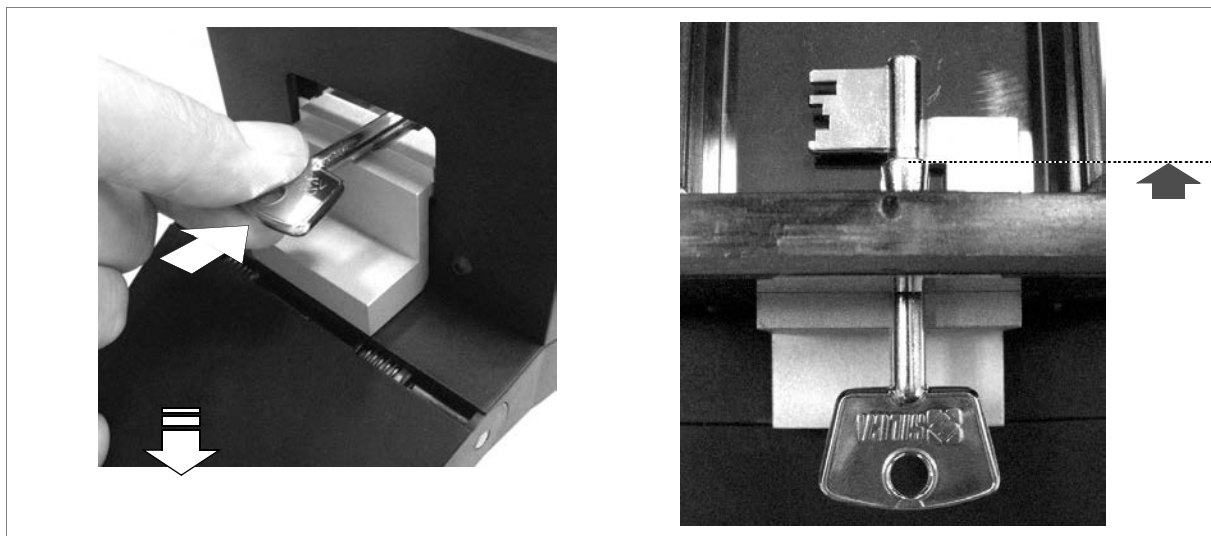

Fig. 21
- 2) With the lever down fit the key with its stop up against the stop on the adapter (fig. 21).